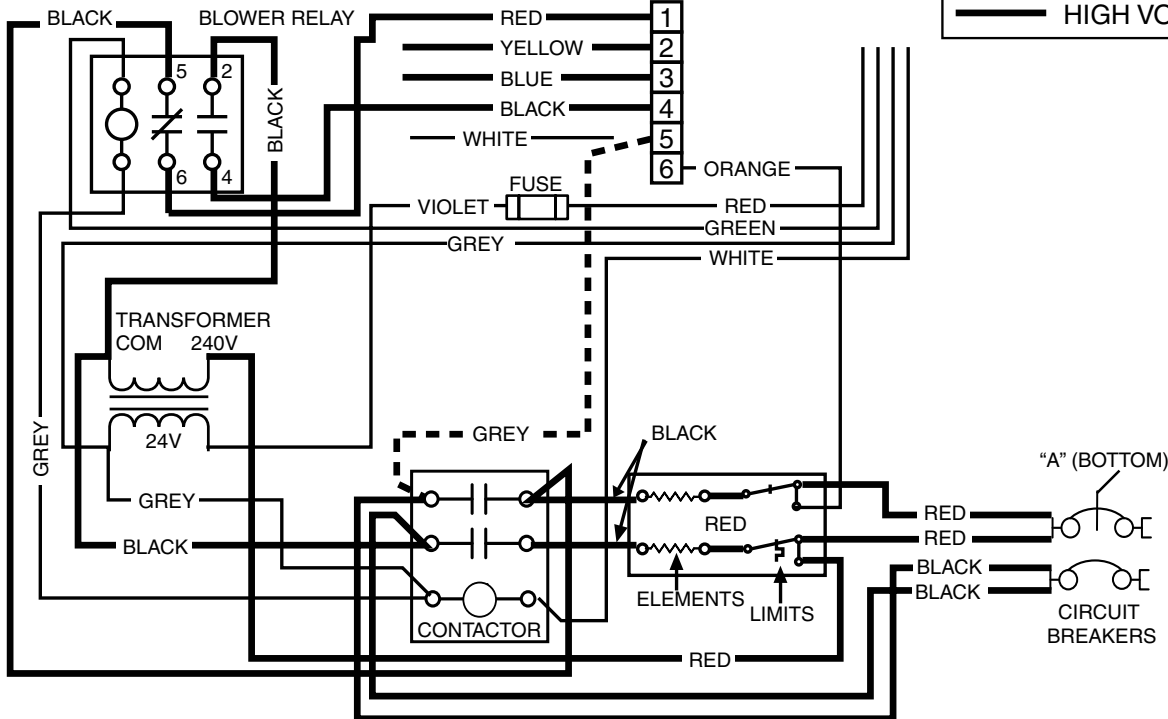

Figure 1. E3EB-010H Electrical Diagram
- **For E3 series furnaces only:** Install the grey wire that is supplied with this kit. Determine your appropriate model from Figures 1, 2, 3, or 4 (pages 2 & 3).
Firmly press the grey wire socket termination into pin location #5 of the blower plug (in the control panel) and the .25" push-on terminal into the open contactor termination shown in Figures 1, 2, 3 & 4 (pages 2 & 3). The dashed line represents the field installed grey wire.